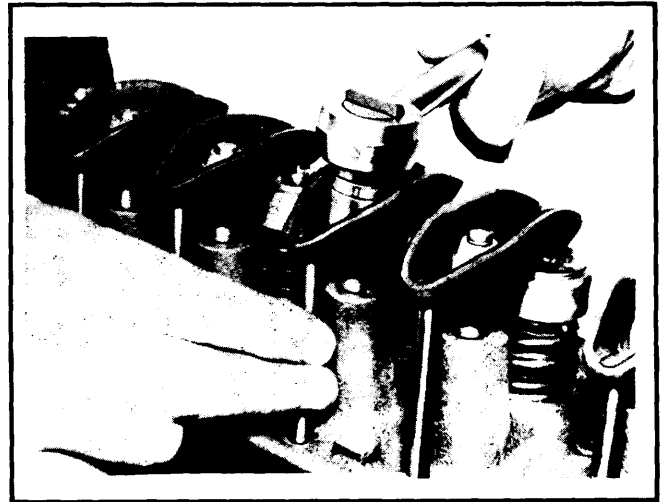

Fig. 5 Valve Adjustment
2) Adjust valves by backing off adjusting nut until lash is felt at push rod. Then tighten until all lash is removed. Tighten nut one full additional turn. See Fig. 5.